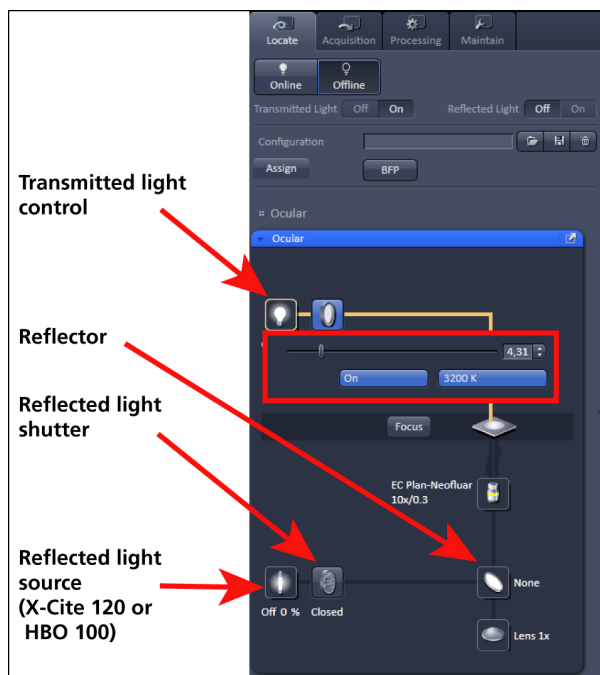

Fig. 12 Microscope Control window with Transmitted Light pop-up menu
- Open the graphical pop-up menu by clicking on the **Transmitted Light** icon (Fig. 12).